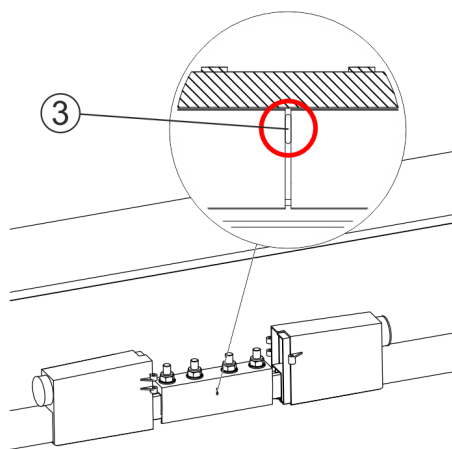

Fig. 75: Slide the second end of the rail into the connector
- Slide the conductor bar of the second rail end up to the stopper (Pos. 3) of the connector (see Fig. 75).